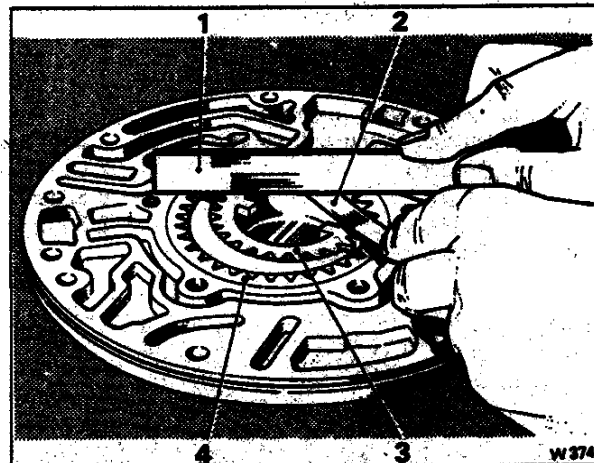

Fig. T83 Checking the gear end clearance
2. Fit the gears into the pump body, then check the end clearance as shown in Figure T83. The clearance should be between 0,02 mm. and 0,09 mm. (0.0008 in. and 0.0035 in.).